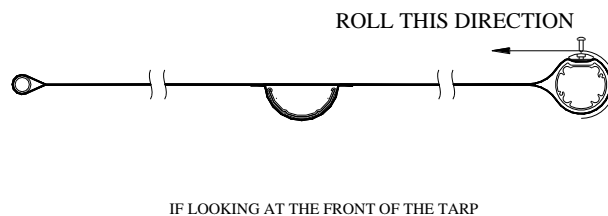

Figure 13
9. Slide the ridgepole into the pocket of the tarp upright. (The cup needs to face up). Refer to figure 13.
12. Slide the tarp rod into the pocket on the "passenger's side" of the tarp. There will be approximately 1/2" of the rod sticking out from each end of the tarp. If Driver Stowing it will appear opposite. Refer to figure 13 for proper tarp assembly.
13. Roll the tarp up starting with the axle. (As shown above in Figure 13)